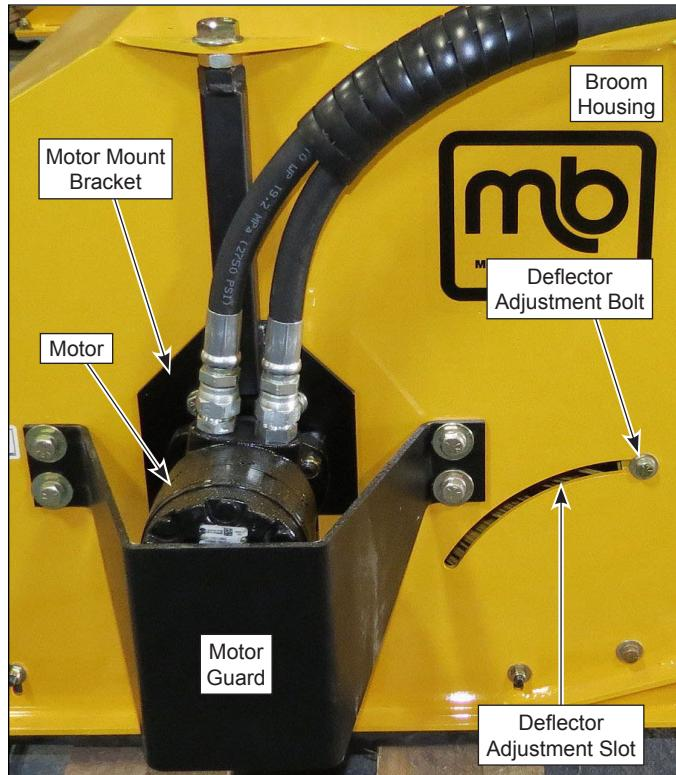

Figure 1
- Remove (4) 1/2-13 x 1-1/4" hex head capscrews, flat washers and motor guard from broom housing. Retain guard and mounting hardware. See Figure 1.
1. Loosen the deflector upper mounting bolt on each side of the broom housing. See Figure 1.